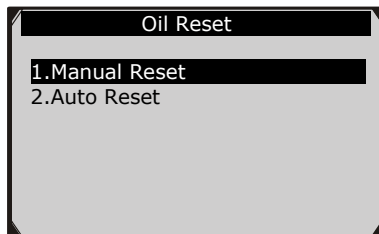

Figure 6.15
- 1) Select **Manual Reset** from the **Oil Reset** menu (Figure 6.15), and press **OK** button.